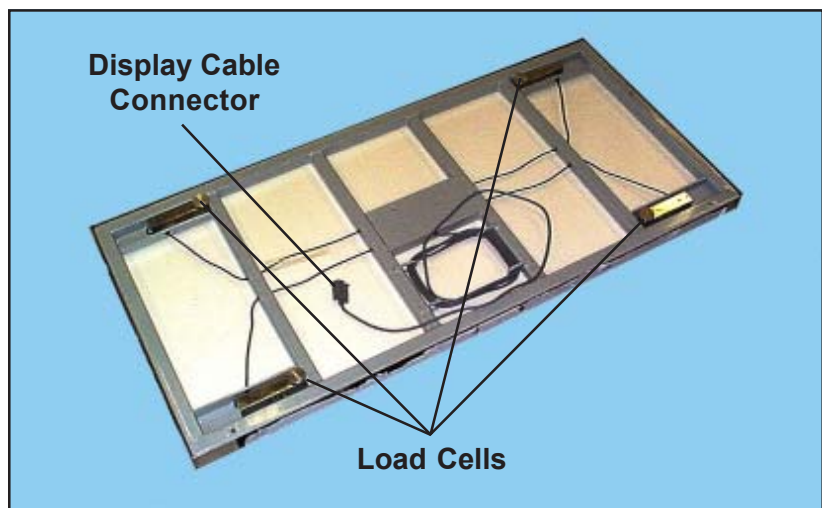

Figure 17. Underside of Electronic Scale Platform Showing Load Cells and Display Cable Connector
4. Unwrap the display console cable from the hooks under the scale platform (Figure 17).
5. Place the electronic scale platform on the unit so that the load cells under the scale line up with the mounting holes on the unit frame (Figures 17, 18, and 19). Make sure that all four load cells rest on the frame arms and that the scale is stable and does not rock. **Note:** The display cable should exit to the rear to facilitate routing to the display console.